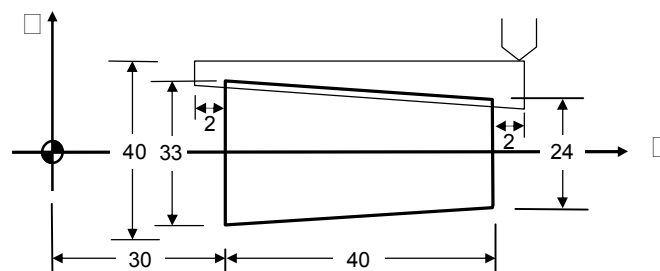

Fig.3-22 Tapered thread cutting
- $X, Y$       End point C in absolute coordinates (Fig. 3-22)
In Fig. 3-22, the cutting paths 1 and 4 are fast positioned by G00. The cutting along the paths 2 and 3 is executed at the feed-rate F. Whenever the start button (C-CST) is pressed in a block, the tool moves along the paths 1-2-3-4 to execute a cutting cycle.